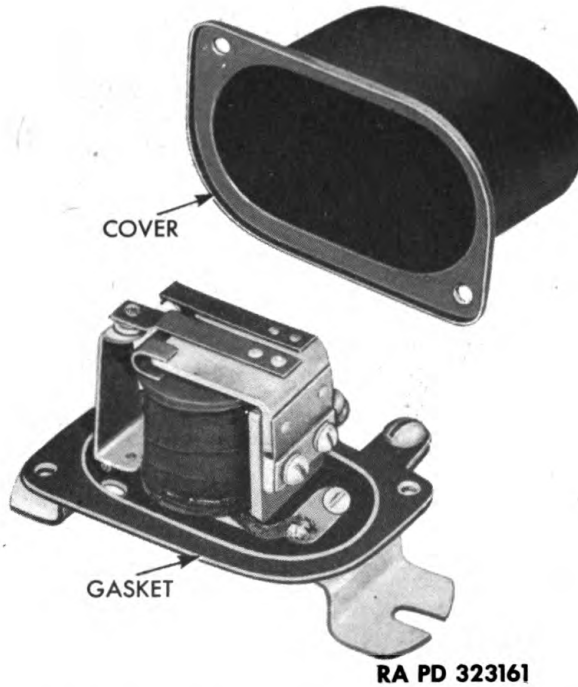

Figure 162 — Relay Cover Removed
a. **Remove Cover** (fig. 162). Remove two screws and lock washers, and lift off cover and gasket.
b. **Install Cover** (fig. 162). Set cover with gasket over relay base, and attach with two screws and lock washers.